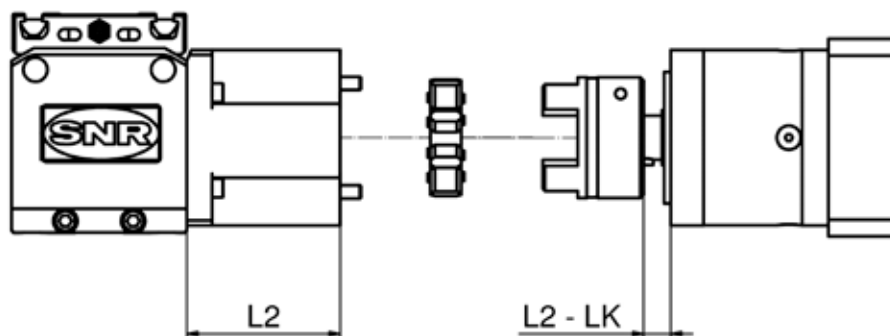

Figure 3.8 Mounting dimension
3. Insert this assembly into the coupling half with elastomer gear rim screwed to the drive head **6**, and tighten them with the screws **7**. Consider the dimensions LK and L2 (Figure 3.8) from Table 6.20, Chapter 6.2.3.2.